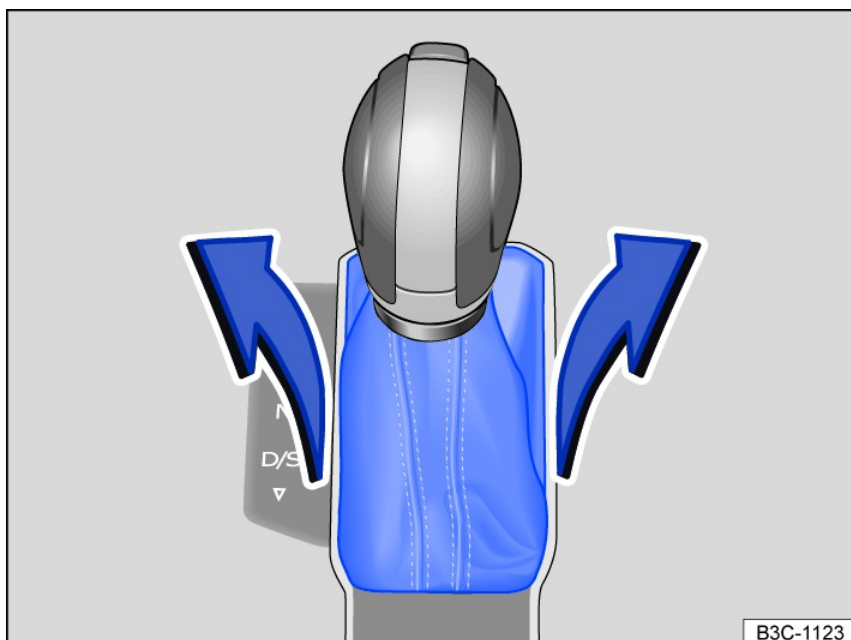

Fig. 117 Remove the cover on the shift gate.
3. Pull the cover near the selector lever boot upward carefully with the wires connected *fig. 117*.